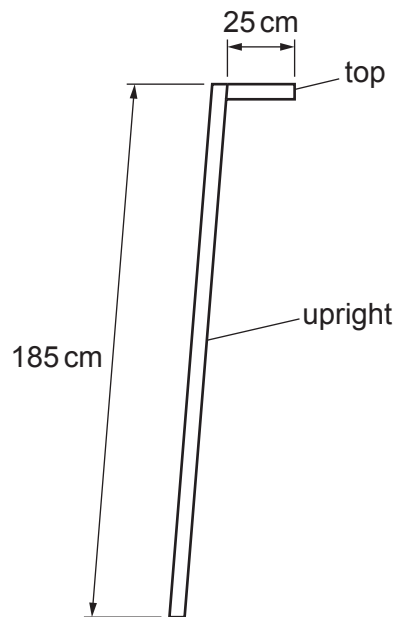

Fig. 4
- (b) Each side frame is made from two pieces of timber, the top and the upright, as shown in Fig. 4.
- (i) Using the dimensions in Fig. 4 convert the lengths of the top and the upright from centimetres to metres.